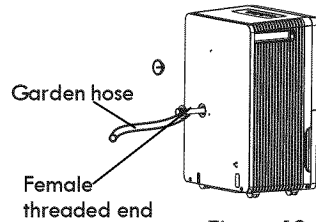

Figure 10
- Screw the female threaded end of the garden hose onto adaptor A (see Fig. 10). Lead the hose to a floor drain.